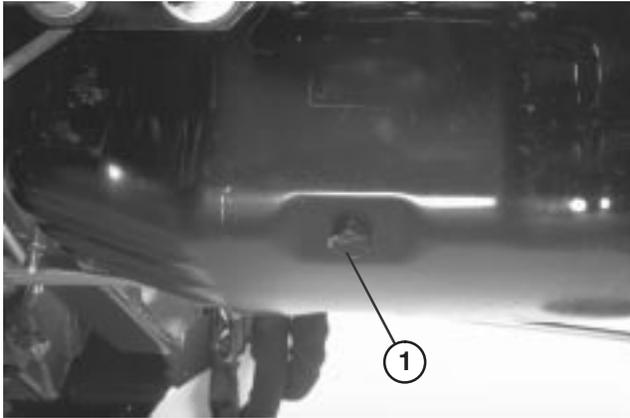

Figure 35
2. Place drain pan in line with the drain plug (Fig. 35). Clean area around drain plug.